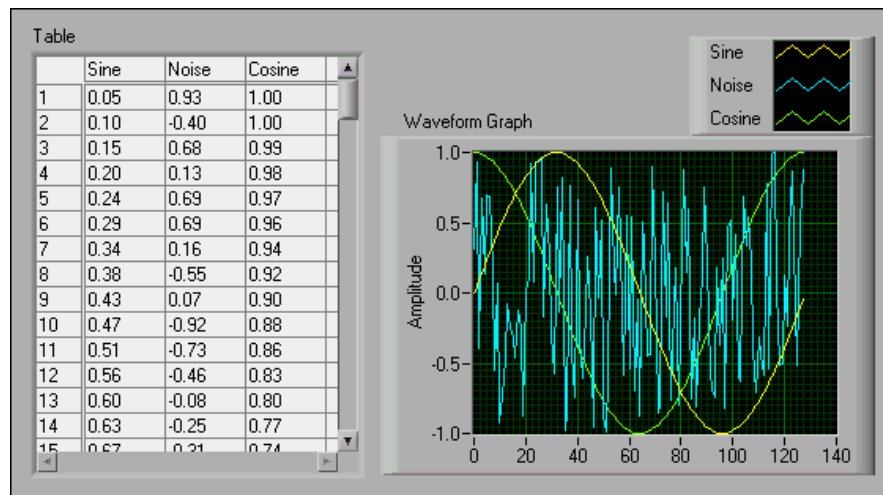

Figure 9.9
1. Open the Spreadsheet Example VI located in the C:\Exercises\LabVIEW Basics I directory. The front panel in Figure 9.9 is already built.